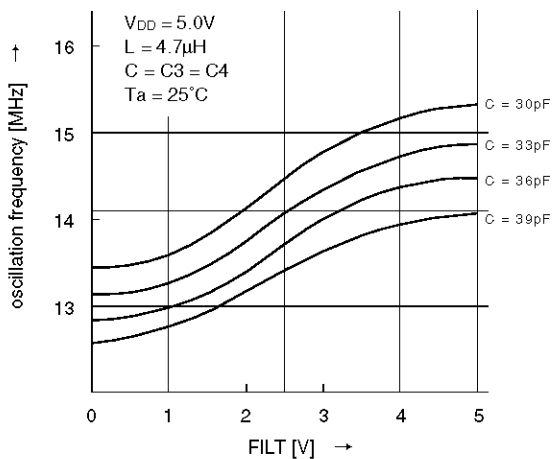

Figure 11 FILT-LC Oscillation Frequency (1)
* See Figure 11, 12 for LC oscillation characteristics.